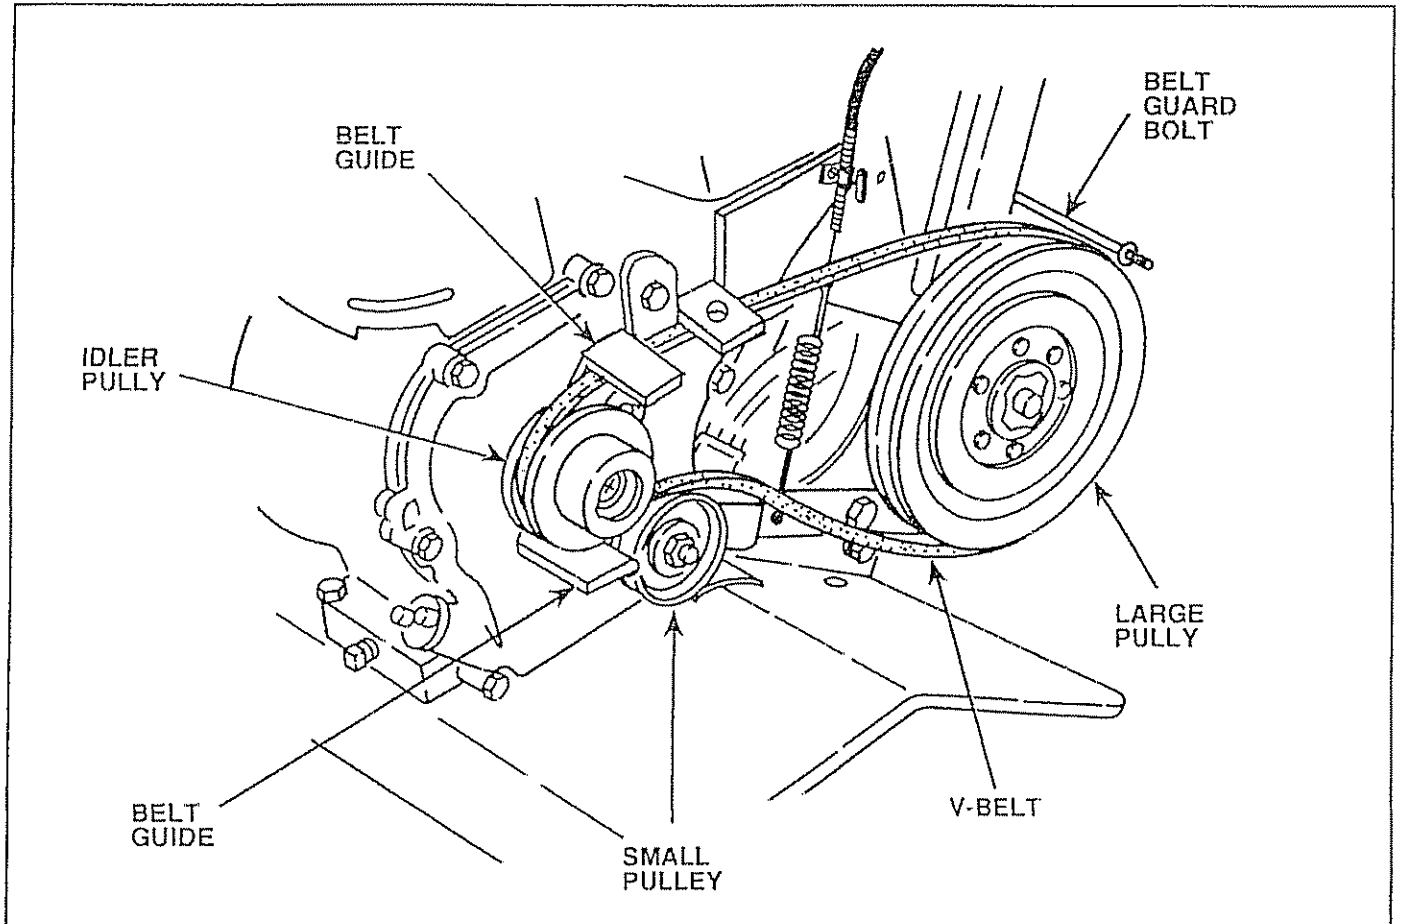

FIGURE 28
- Remove old V-Belt (from larger pulley first) (Fig. 28)